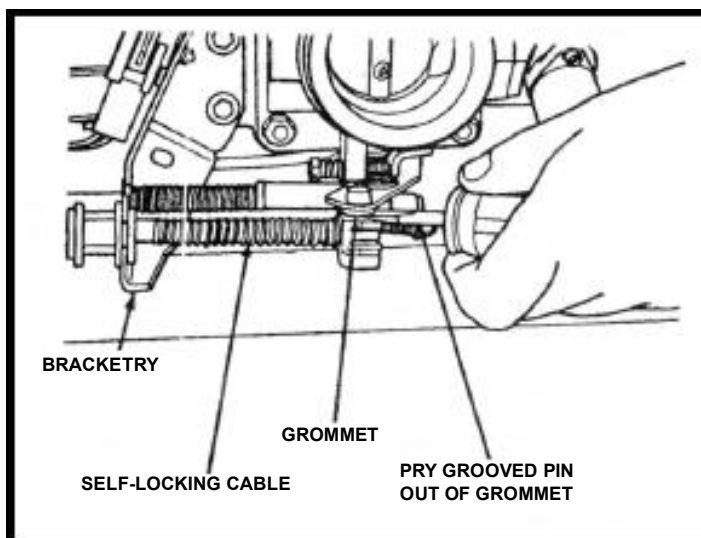

FIGURE 18
7.9 Remove gauge tool and pry grooved pin out of grommet on throttle lever. (See Fig. 18).